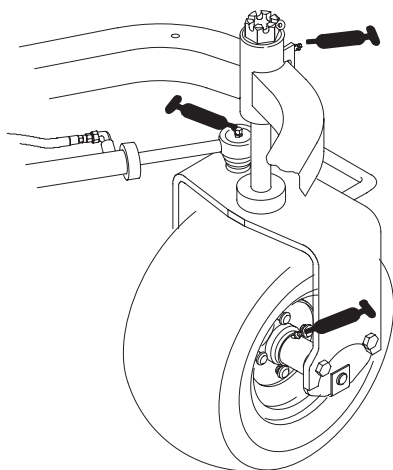

Figure 32
- Rear wheel hub (1)
- Castor bearing (1)
- Steering cylinder (2) (Fig. 32)